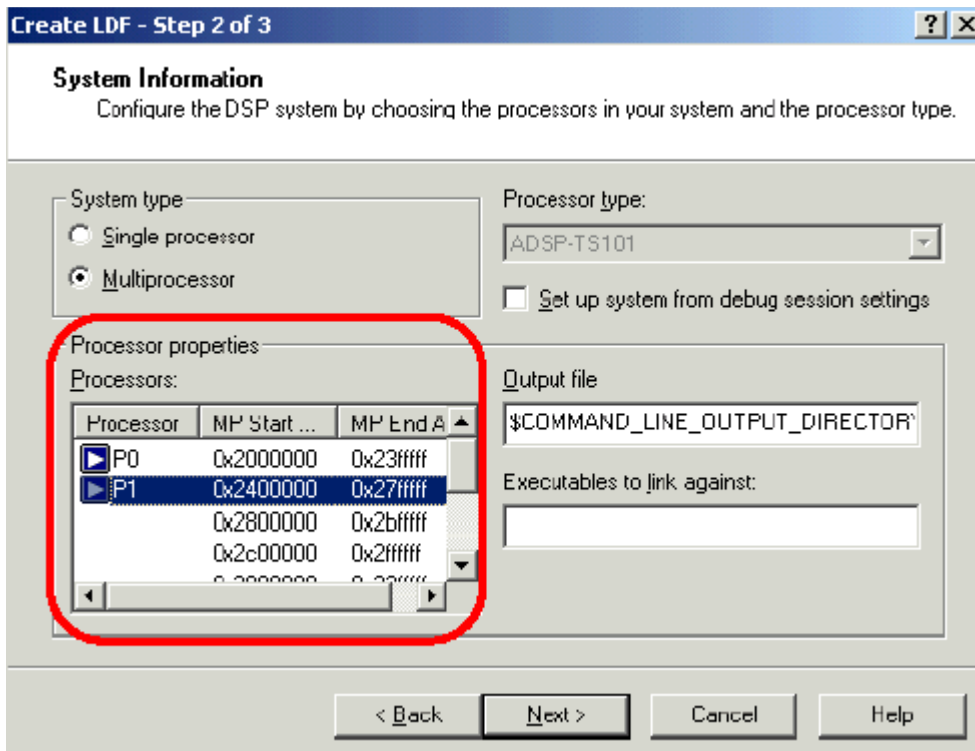

Figure 4-5. Processors and MMS Offset
For multiprocessor (MP) systems, the window (Figure 4-5) shows the list of processors in the project. The Expert Linker automatically displays MP address range for each processor space providing specific MP addresses and multiprocessor memory space (MMS) offsets which makes the use of MP commands much easier. This is an automatic replacement for the `MPMEMORY` linker command used in the LDF source file.